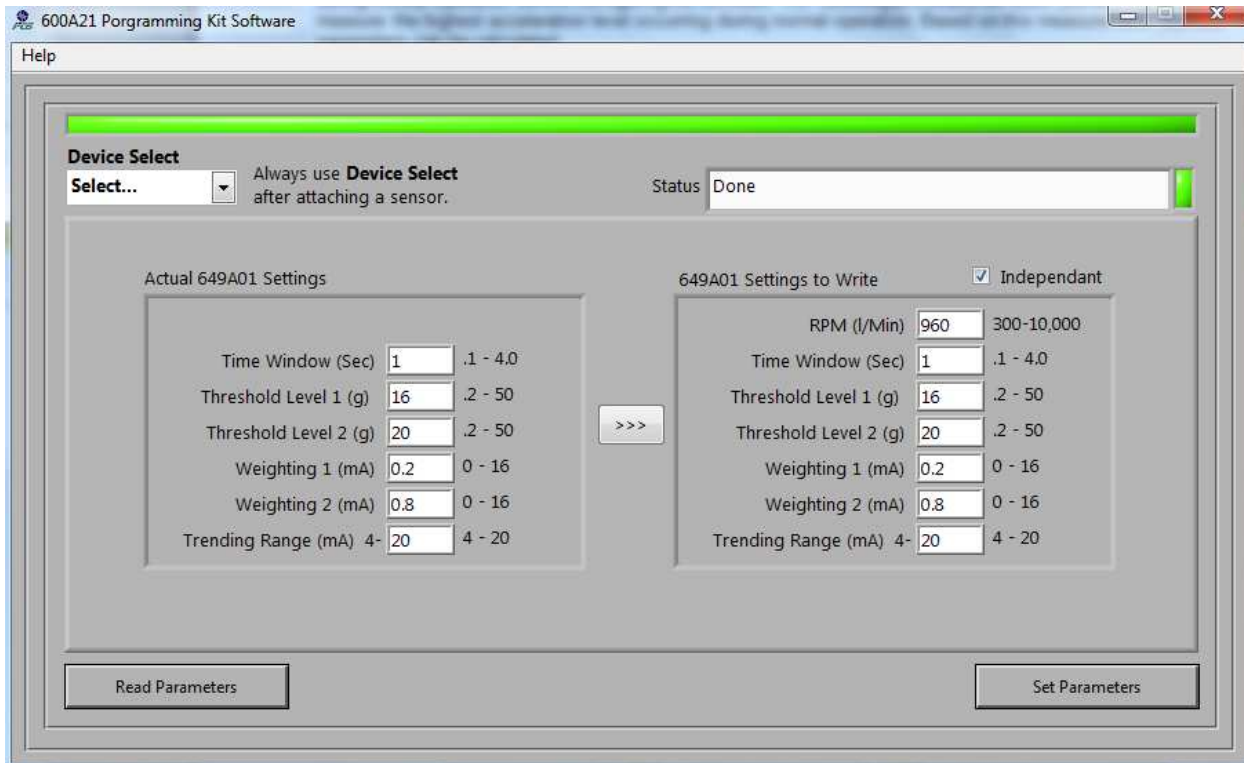

Figure 13 – RMP Programmer Screen Setup for Measuring Base Vibration
3. Type the following values into the appropriate boxes on the Programmer Screen, Figure 13. When these values have been entered, click the Setup button to download the configuration to the RMP.